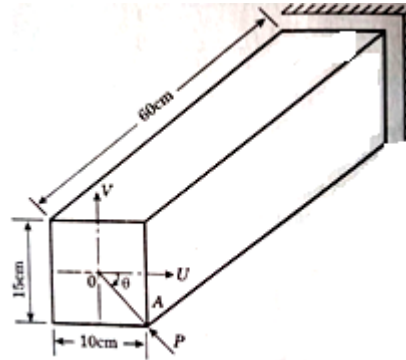

Fig.1
- 3 a) Describe the Airy's stress function with the help of second degree polynomial? (4)
- b) Obtain the bending stress on the cross section of a cantilever beam carrying point load at the free end using polynomial stress function method? (6)
- 4 a) Write the generalized Hook's law for an isotropic material. (5)
- b) State and prove uniqueness theorem. (5)
- 5 a) Obtain the stress distribution in a rotating solid disc of radius 'b' with no external forces at the outer surface. (7)
- b) Sketch the circumferential stress distribution for a thick cylinder subjected to internal pressure only. (3)
- 6 a) Draw the stress distribution around a small hole (diameter 'b'), on a thin plate having large width ('a') where  $b \ll a$ , subjected to uniform tensile forces at the two edges. (4)
- b) What are the assumptions involved in axisymmetric problems. Write the governing equilibrium equations for the axisymmetric problem with sketch indicating stress components. (6)
- 7 a) Find the value of load P in Fig.1, so that the maximum bending stress allowed is 15MPa for the case of beam shown below, subjected to unsymmetrical bending. (8)